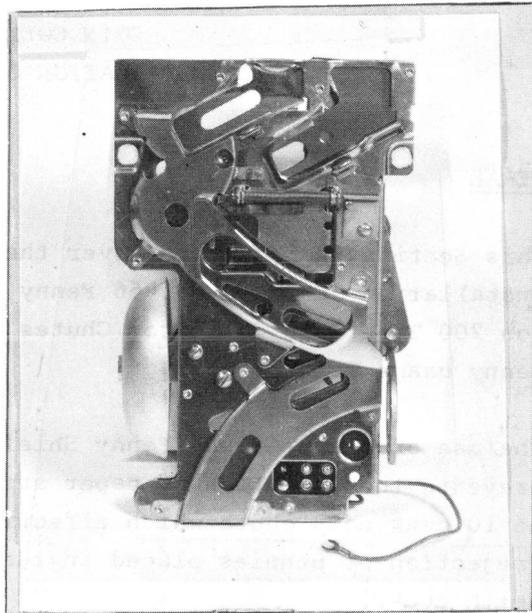

Fig. 5
3.02 The shield is now installed as shown in Figure 5.